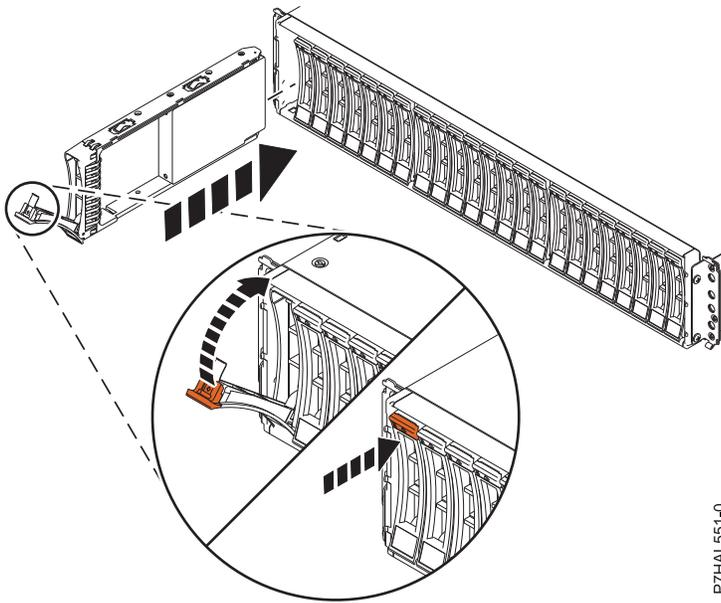

Figure 6. Installing the disk drive in the 5887 expansion unit
1. With the handle in the unlocked position, see Figure 6 on page 18, support the bottom of the disk unit as you align it with the guide rails in the expansion unit. Do not hold the disk unit solely by the handle.